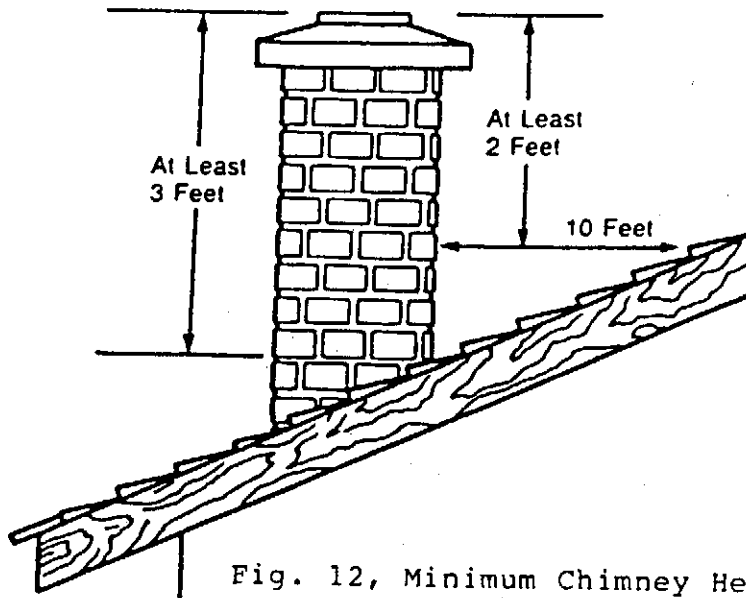

Fig. 12, Minimum Chimney Height
4. A chimney must be the required height above the roof or other obstruction for safety and for proper draft operation. The requirement is that the chimney must be at least 3 feet higher than the highest point where it passes through the roof and at least 2 feet higher than the highest part of the roof or structure that is within 10 feet of the chimney, measured horizontally (Fig. 12).
The chimney must be the required height above the roof or other obstruction for safety and for proper draft operation. The requirement is that the chimney must be at least 3 feet higher than the highest point where it passes through the roof and at least 2 feet higher than the highest part of the roof or structure that is within 10 feet of the chimney, measured horizontally (Fig. 12).